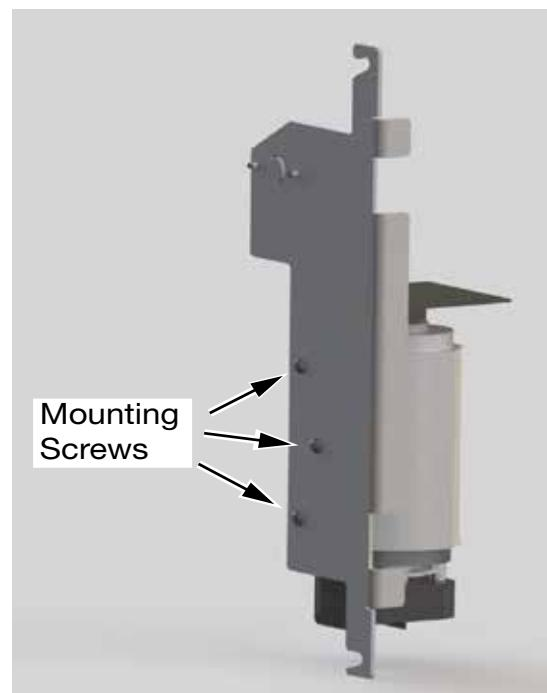

Figure 5: FP16 Blower Mounting Screws.
5. Remove the three bolts securing the blower to the mounting bracket (Figure 5) and replace the blower.